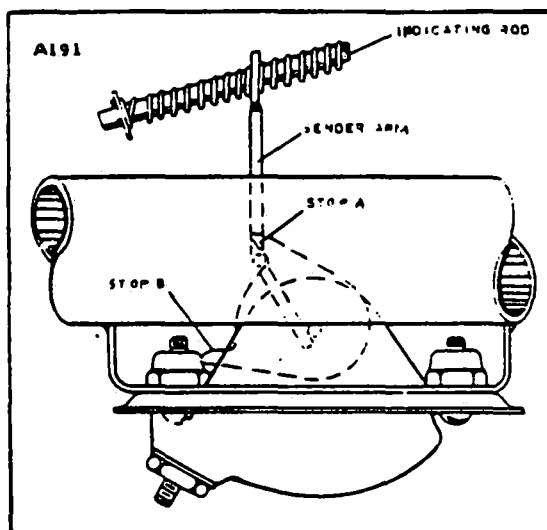

Figure 5-16. Flap Position Sender Unit
5. Move the indicating rod aft until the sender arm reaches stop "A". (Refer to Figure 5-16.) The ohmmeter should read from 0.00 to 0.50 ohms.
2. Move sender unit arm up to stop "A" (Refer to Figure 5-16.). the flap indicator gauge needle should point to the up position.